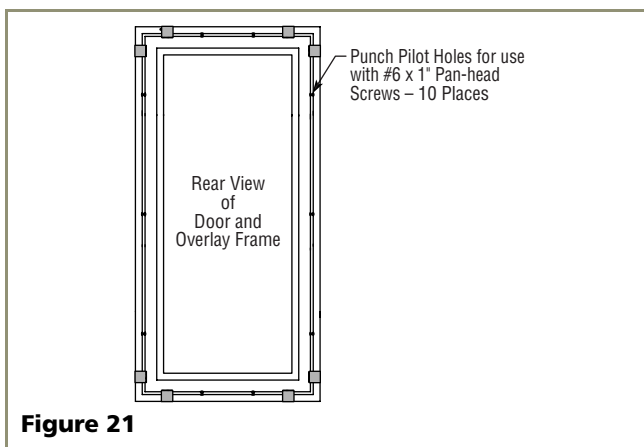

Figure 21
- Place door and overlay frame on a flat, clean protective surface. Use the door frame holes as a guide to lightly punch pilot holes for the #6 x 1" pan-head screws. See **Figure 21**.